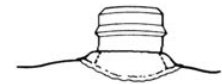

Fig. 8
5. Snap a black fabrication male (or an ERA Metal Jacket with its fabrication male) into each female. Block out the remaining exposed surfaces of the copings, so when the self-curing acrylic is added and cured, it will not be in contact with the copings (Fig. 8). This small space between the copings and the acrylic will allow for the resilient function of the ERA attachments.